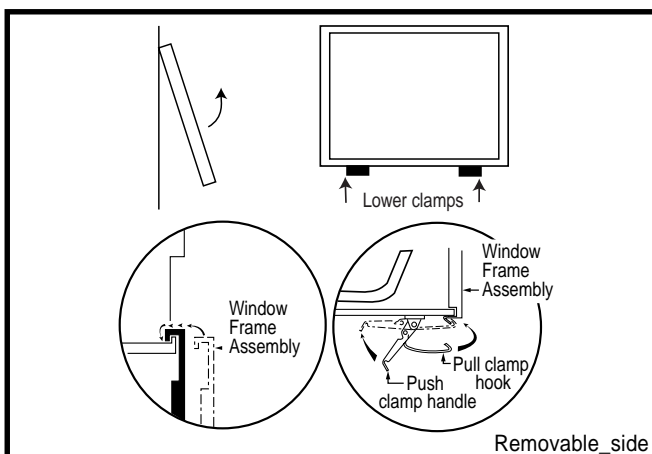

Fig. 38 Window frame assembly removal
5. Release the two clamps along lower edge of the frame by pulling down on clamp handles (Fig. 38).